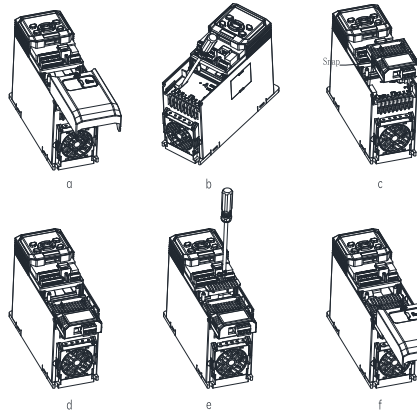

Fig. 4 CANopen option installation steps
- (1) When the drive is powered off, press the granulated area on the middle-upper part of the lower cover, slide it down with a certain amount of force to remove the lower cover, as shown in Fig. 4-a.
- (2) Use a straight screwdriver to pry open the dust-proof cap, as shown in Fig. 4-b.
- (3) Install the CANopen option: hold the expansion box (a bus card inside) upwards (indicators up), align the expansion box with the electrical bus interface in the installation position 2, and press down horizontally to buckle the spring snap of the expansion box into the groove at the lower part of the drive, as shown in Fig. 4-c and Fig. 4-d. Then, use the included retaining plate to secure the option and tighten it with screws (for enclosure B only), as shown in Fig. 4-e.
- (4) The bus option is successfully installed, as shown in Fig. 4-f.